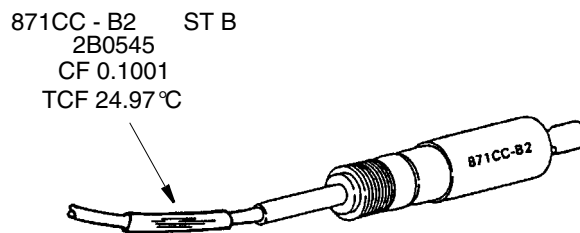

Figure 19. Sensor Identification
871CC Sensors with 0.1 cm^{-1} nominal cell constants are stamped with a 4-digit number (for example, 0.1001), which is the Cell Factor (CF) of that particular cell when tested in our factory. These cells are also stamped with a temperature value (tCF) (for example, 24.97°C), which is the temperature at which that particular transducer read its theoretical resistance value. See Figure 19. When the sensor is connected directly to the analyzer, these factors may be input directly into the analyzer or transmitter to correct for these offsets. See appropriate analyzer instruction for details of how to enter these values.